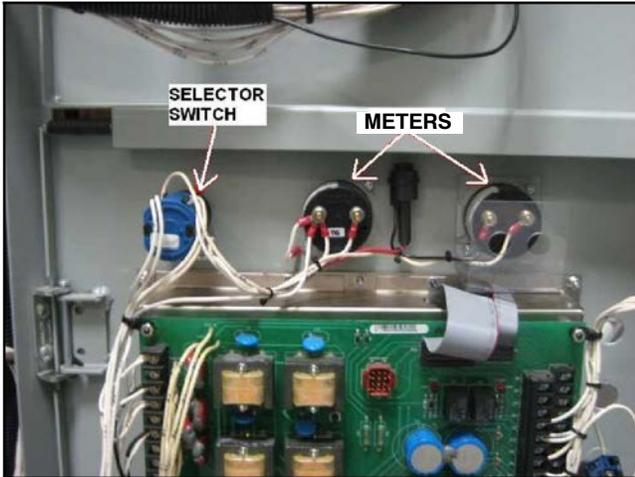

**Figure 10** Switches and Pushbutton Removed
11. Remove the AUTO/TEST switch, the BYPASS TIME DELAY pushbutton, and the ATS (AUTO/INHIBIT) disconnect switch. See Figure 10.